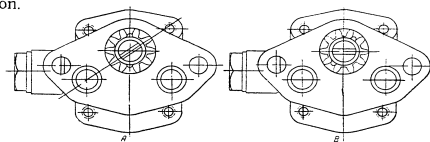

Fig. 20. Position of Oil Pump Shaft Slot
2. Turn the oil pump shaft so that its slot is brought to the position shown in Fig. 20,A.
3. Put the oil pump in place carefully so that the pump gears will mesh with the camshaft gear, the pump shaft will turn and the slot for the distributor shaft lug will take a horizontal position, shown in Fig. 20,B.